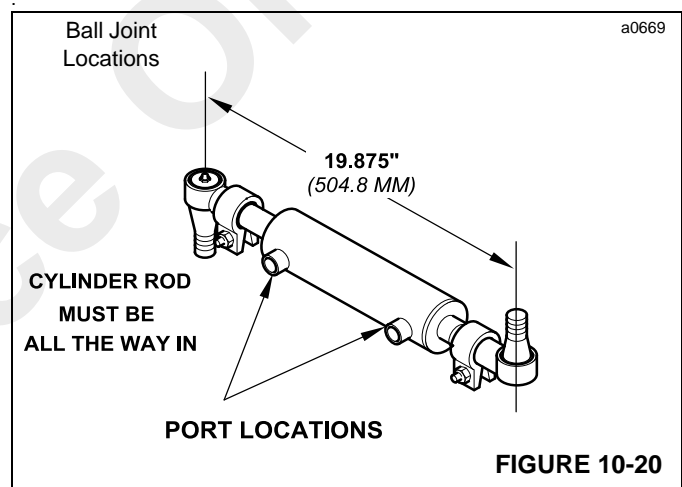

FIGURE 10-20
8. If the ball joints were removed, install them to the cylinder ends. Turn the ball joint onto the threads 18 turns. Be sure to locate the ball joints as illustrated in Figure 10-20. Then measure the distance from center of one grease fitting to the center of other grease fitting. The dimension should be 504.8 mm (19-7/8").